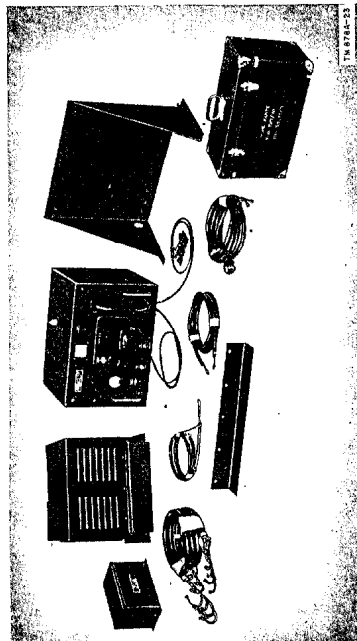

Figure 15. Components of Radio Transmitter T-83/SR.
- a.* Radio Transmitter T-83/SR is a 50-watt telephone and telegraph marine radio transmitter. Either c-w or phone transmission is available on any of five preset channels in the frequency range between 1,700 and 8,700 kc. Three separate units house the entire transmitter installation (fig. 15). Provisions are made for remote control operation of the radio transmitter.